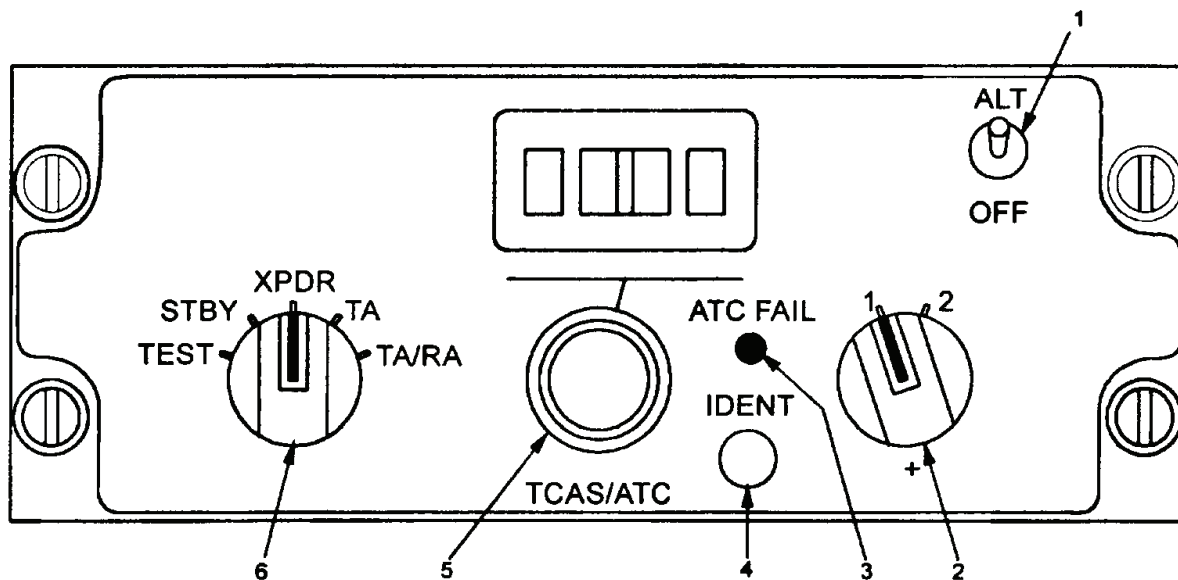

Figure 3B-142. TTC-920 Transponder/TCAS Control
d. TCAS Mode/Warning Flags and Messages. TCAS mode/warning flags and messages are shown in Figure 3B-144 and Table 3B-106. They may appear in one of the seven indicated slots on the display face.